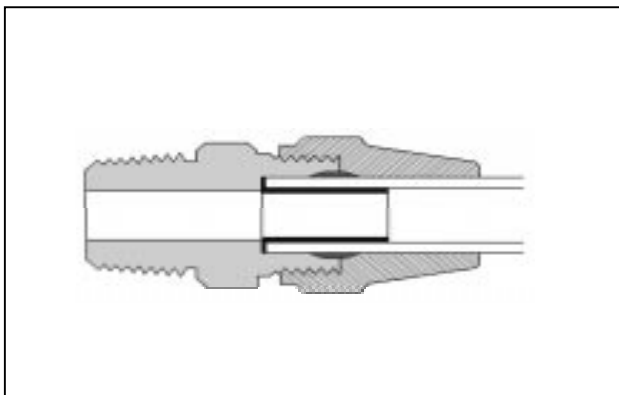

Figure 4: Assembled SAE fitting with tube, sleeve and insert
6. Assembly instructions for SAE fittings (see Figure 4):